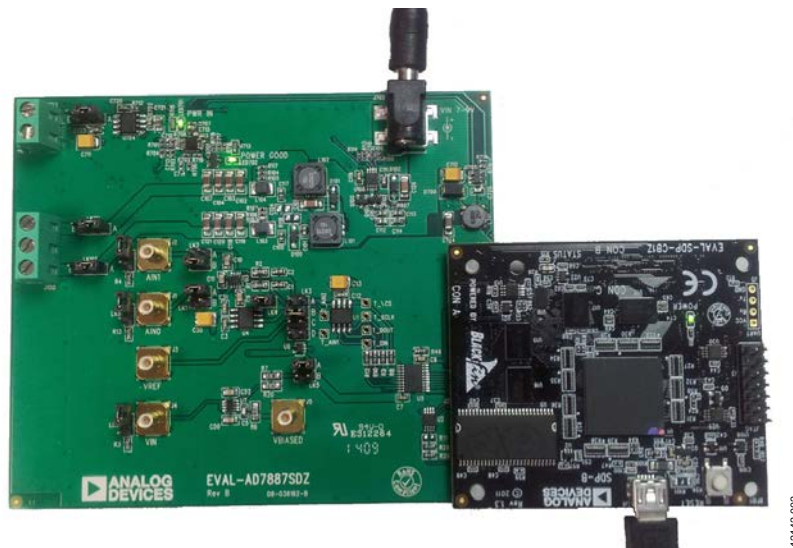

Figure 2. EVAL-AD7887SDZ Evaluation Board (Left) Connected to the EVAL-SDP-CB1Z SDP Board (Right)
3. Connect the EVAL-SDP-CB1Z board to the EVAL-AD7887SDZ evaluation board as shown in Figure 2. Screw the two boards together using the enclosed nylon screw/nut set to ensure that the boards connect firmly together.
Figure 2 shows a photograph of the connections between the EVAL-AD7887SDZ daughter board and the EVAL-SDP-CB1Z board.